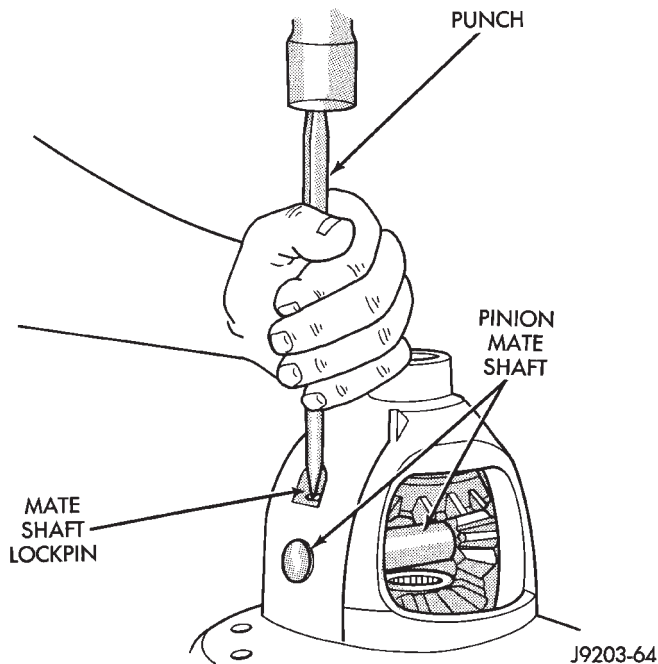

Fig. 53 Mate Shaft Roll Pin Installation
- (1) Install the differential side gears and thrust washers.
- (2) Install the pinion mate gears and thrust washers.
- (3) Install the pinion gear mate shaft. Align the roll pin holes in shaft and the differential case.
- (4) Install the roll pin to hold the pinion mate shaft in the differential case (Fig. 53).